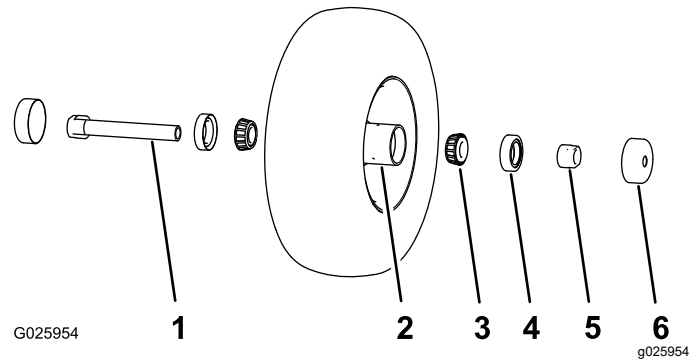

Figure 36
1. Remove the 2 seal guards from the wheel hub (Figure 36).
2. Remove 1 of the spacer nuts from the axle assembly in the caster wheel (Figure 36).
Note: Note that thread-locking compound has been applied to lock the spacer nuts to the axle (Figure 36).
3. Remove the axle (with the other spacer nut still assembled to it) from the caster-wheel assembly (Figure 36).
4. Pry out both bearing seals (Figure 36).
5. Remove both bearings and inspect them for wear or damage (Figure 36).
1. Install 1 bearing into the hub of the wheel (Figure 36).
2. Install the bearing seal into the hub at the bearing (Figure 36).
- C. Thread the axle nut, with the wrench flats facing outward, onto the end of the axle that is prepared with thread-locking compound (Figure 36).
4. Insert the assembled nut and axle into the wheel at the side of the wheel with the new seal and bearing (Figure 36).
6. Install the other bearing and new seal into the wheel (Figure 36).
9. Install the seal guards over the wheel hub (Figure 36).